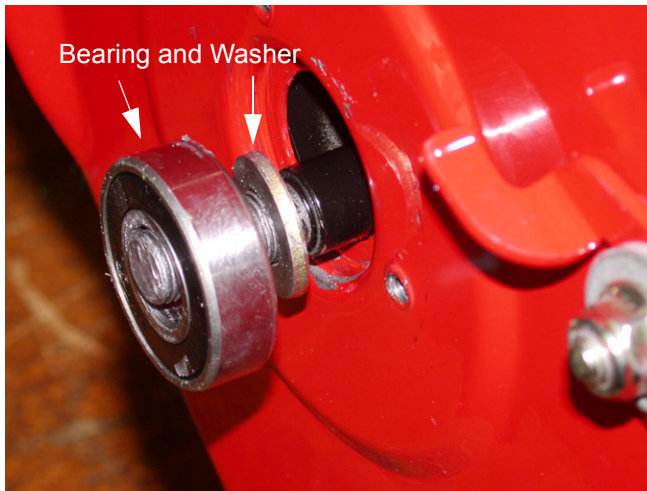

Figure 15
- 9.4. Remove and inspect the bearing and heavy washer for wear or damage. See Figure 15.